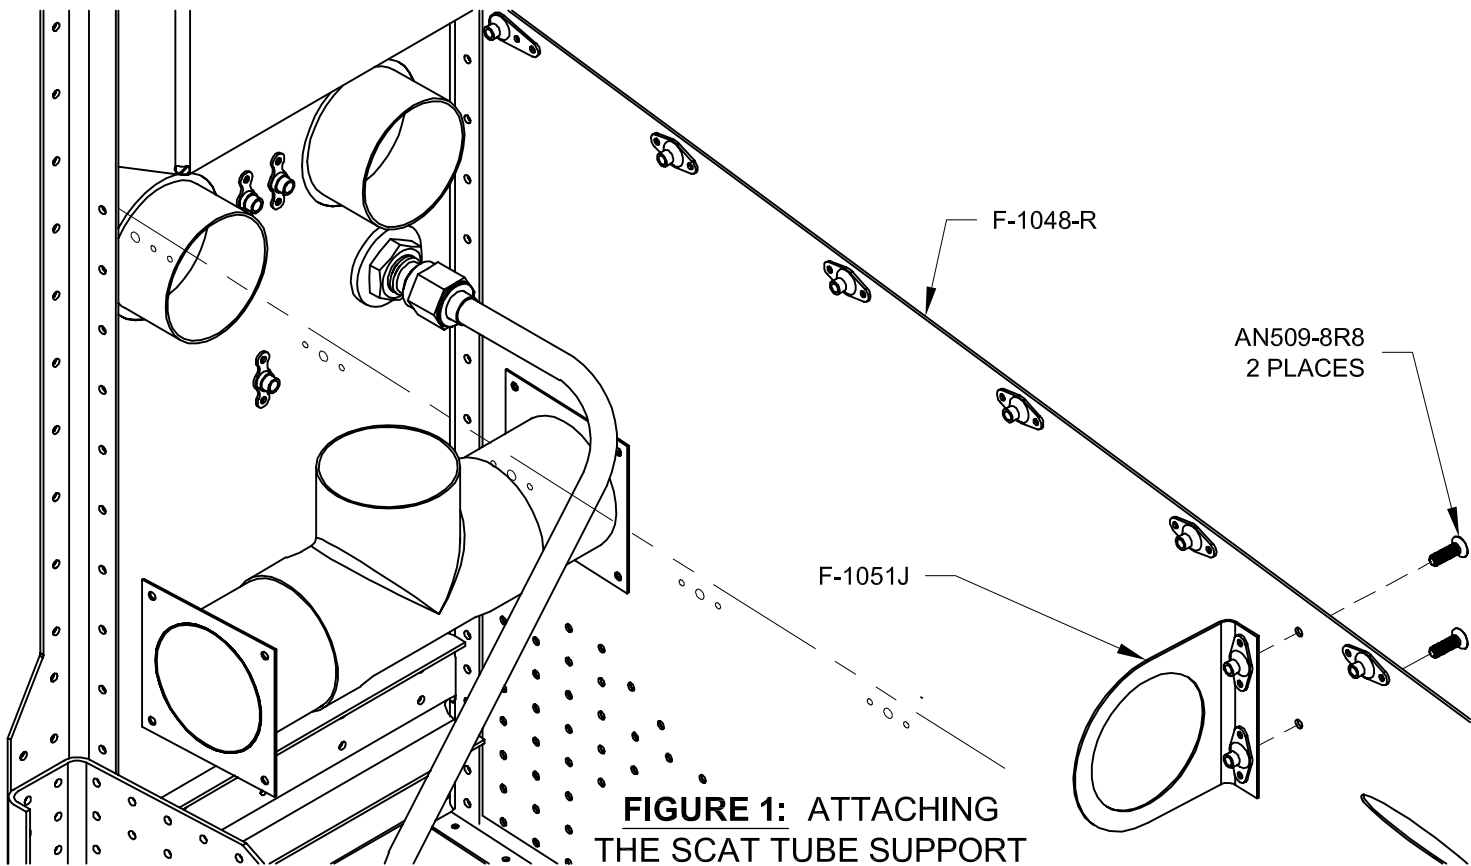

FIGURE 1: ATTACHING THE SCAT TUBE SUPPORT
Step 1: Attach the F-1051J SCAT Tube Support to the F-1048-R Fwd Fuselage Rib using the hardware called-out in Figure 1.